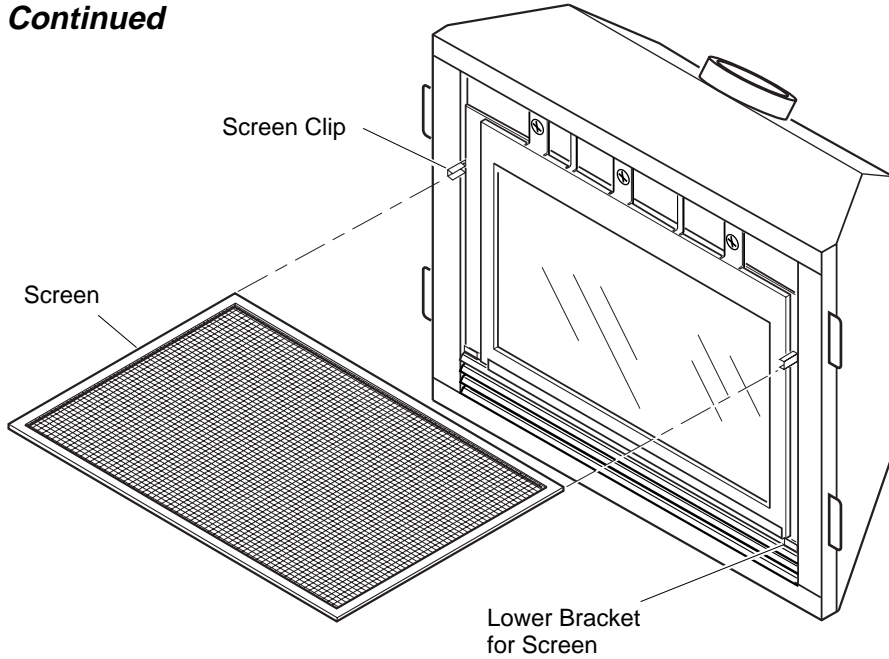

Figure 43 - Removing/Replacing Screen
2. Slide screen upward out of lower brackets. Rotate screen toward you so that screen clips rotate out away from fire-box. Slide screen out of clips. See Figure 43, page 22.